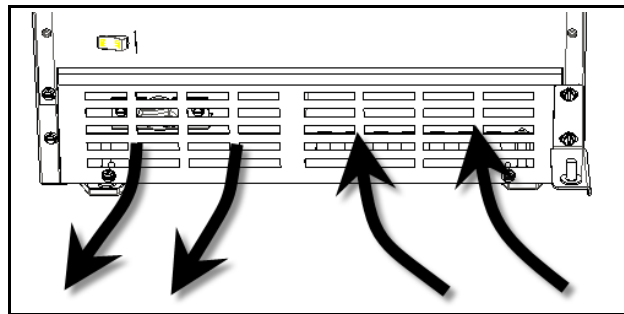

Figure 1
Proper air flow (Figure 1) is required for your unit to operate at its highest efficiently. A grille, located in the base of the unit, must not be blocked at any time, or your unit will not perform.
Open the door to access the power switch. It is located on the lower front panel (**Figure 1, 1**).
1. Remove the front grille (two screws) (**Figure 1, 2**).